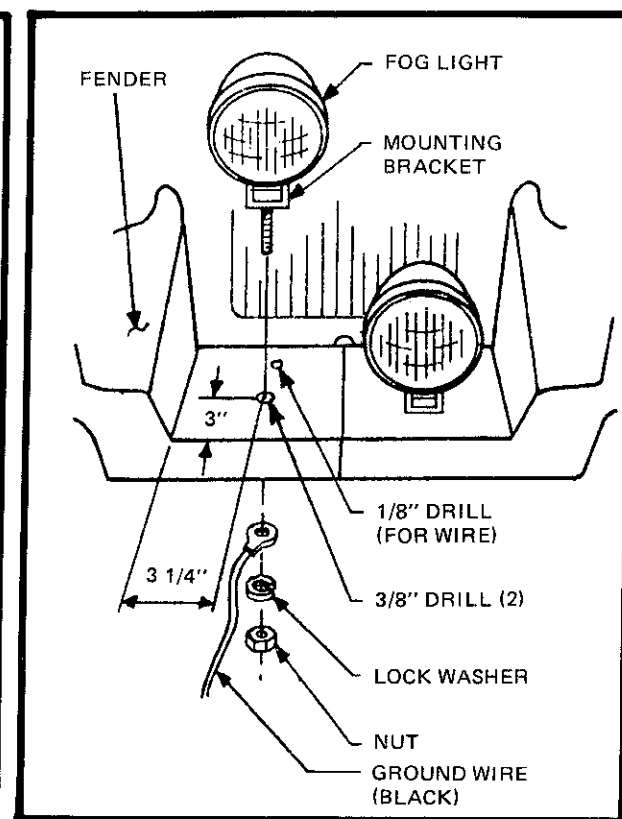

Figure 60
- ☐ Locate each fog light approximately as shown. (Figure 60) Drill a 3/8" hole at the marked location. Position fog lights in the holes. Drill a 1/8" hole directly behind the mounting bracket and push the attached wire through. Where the mounting bolt projects through the fiberglass, attach a 2 foot piece of black wire and secure the foglight in position using the hardware supplied. Run the black ground wire under the radiator shell and secure to the frame.